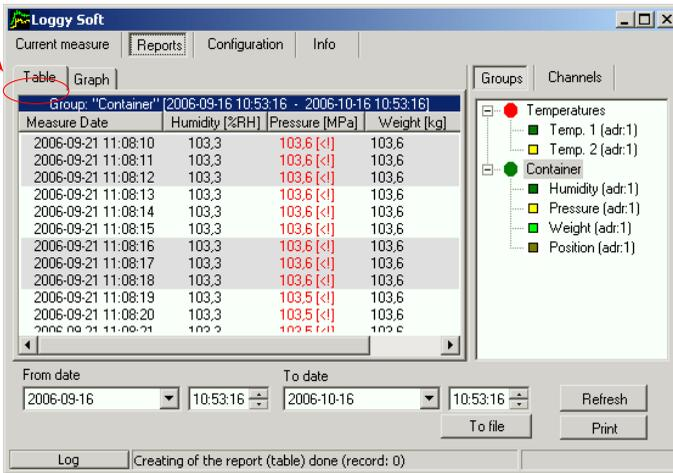

Fig. 3.3. **Reports** - menu
The **Table** tab (Fig. 3.3) is used for printing information concerning recorded measurements (e.g. temperature, humidity) in the form of a table for one of the groups or a particular measurement channel selected by the user (for more information on groups see 3.3.2 section, at page 72). This tab also enables the export of data to text format files. The exported file is formatted in a way allowing the transfer of data to a calculation sheet.
- click appropriate tab **Groups** or **Channels** (Fig. 3.3),